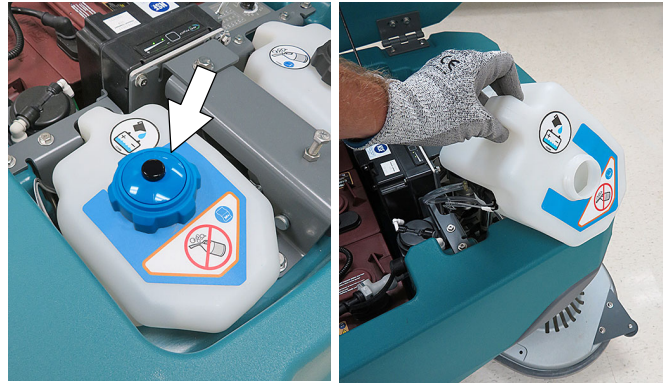

FIG. 150
5. Models equipped with optional automatic battery watering tank - Lift tank from machine and empty the water from tank (Figure 150).